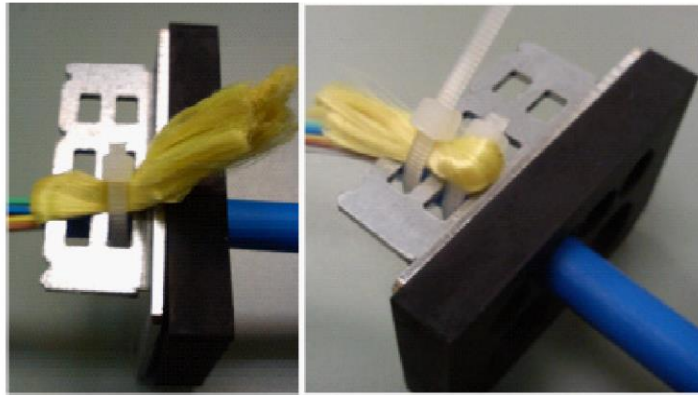

Fig.37
- 3.9.4. Go around the metal support and pass through the bracket holes. The assembly should appear as shown in Fig. 37;